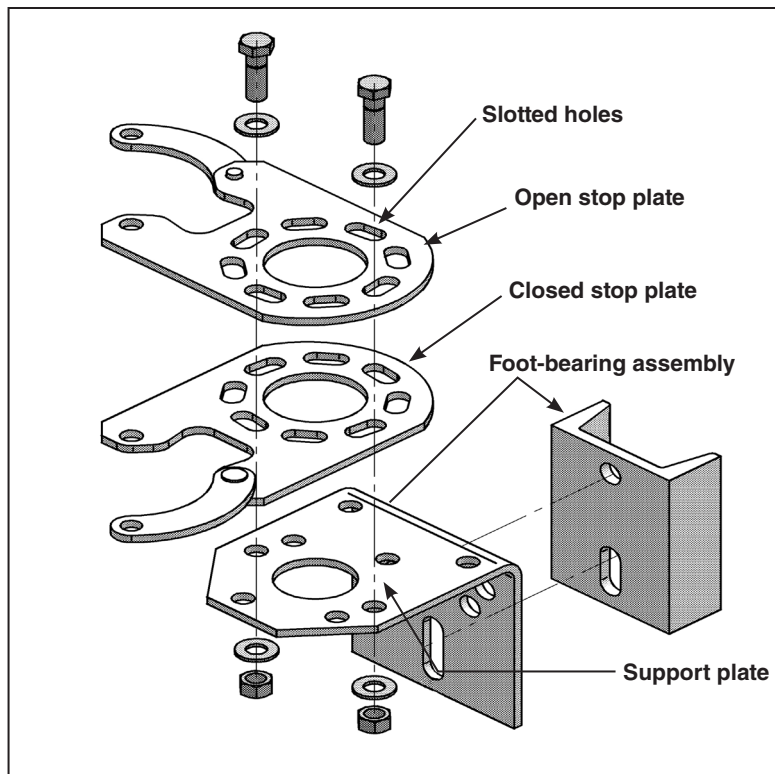

Figure 22. Exploded view of stop plates and foot-bearing assembly.
The stop plate holes are slotted to allow room for adjustment. Loosen the bolts securing the adjustable stop-plates to the foot-bearing support plate. See Figure 22. Place the switch in the fully **Open** position and adjust the open-position stop plate so the handle, when lowered, fits into the open-position slot. Mark the location of the open-position stop plate on the support plate.
- (a) Loosen the hardware securing the closed stop-plate. See Figure 22 on page 22.